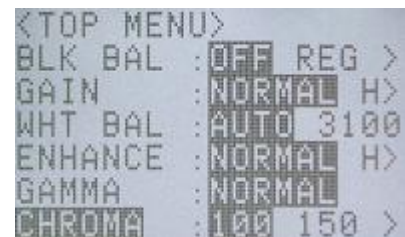

Figure 3-60 CHROMA(TOP MENU)
- 2) Use the arrows   to select "CHROMA" from the TOP MENU. (Figure 3-60)